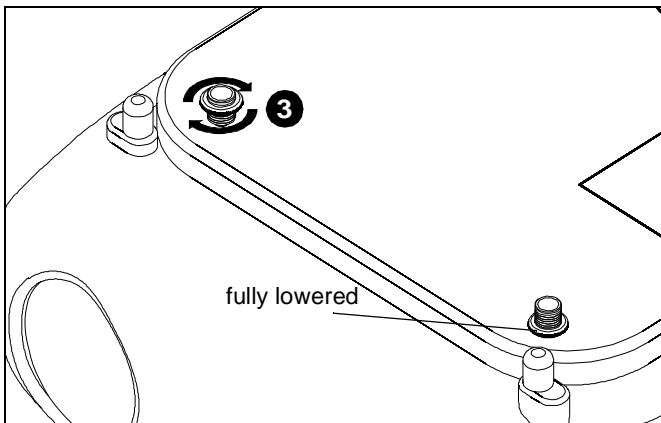

Figure 15
- Adjust height-adjustment nuts to desired level. (See Figure 15)